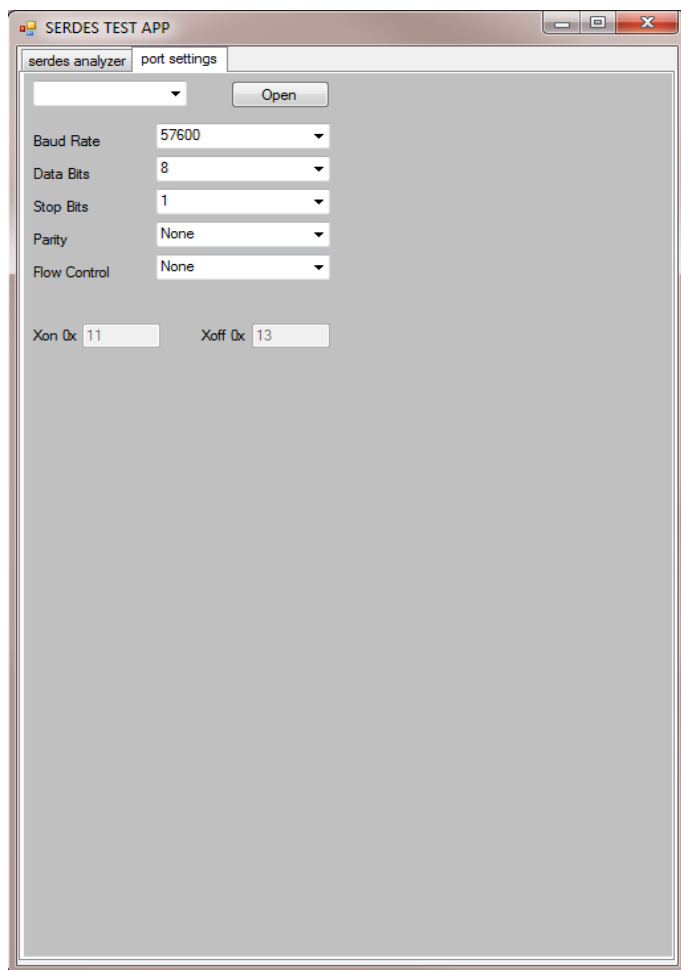

Figure 21 Port Settings Tab
- Click the **port settings** tab on the SERDES TEST APP window. Figure 21 shows the **port settings** tab.